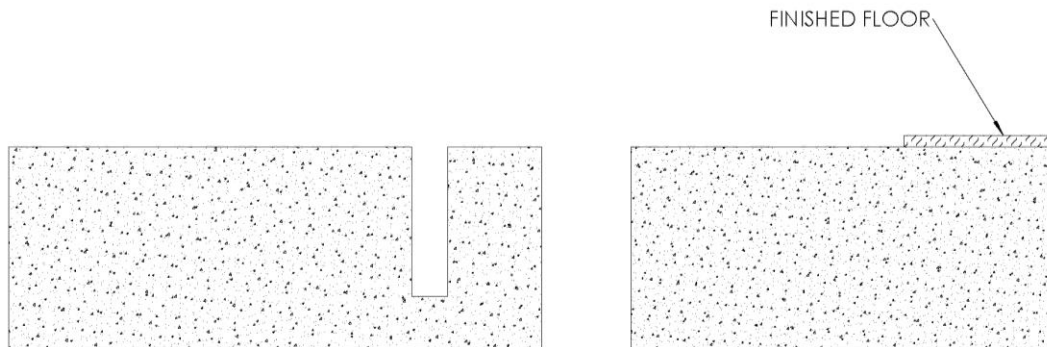

FIGURE 2
2. The floor should be finished (by others) on the non-anchored side of the expansion joint up to the location marked in Step 1. **See Figure 2.**